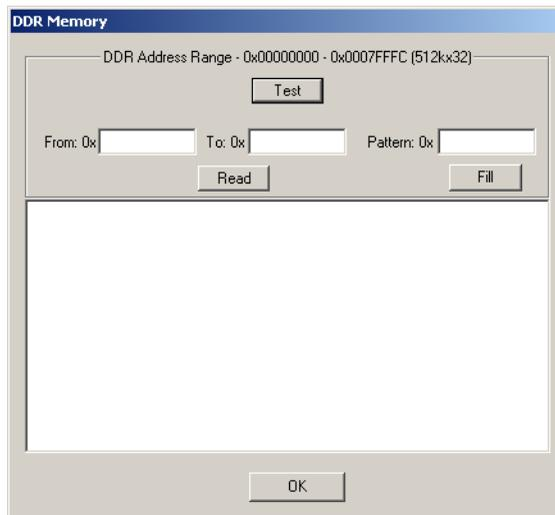

Figure 2-11. DDR Memory Active Window
- 3. Click OK.** The DDR interface calibrates and the other buttons are available to use. See Figure 2-11.